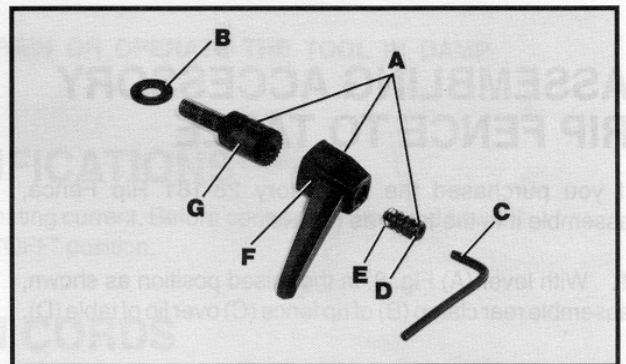

Fig. 3
1. Locate table locking handle assembly (A) Fig. 3, flat washer (B), and wrench (C).
2. Using wrench (C) Fig. 3 supplied, remove screw (D) and spring (E) from handle (F) and remove handle (F) from stud (G). Do not lose spring (E).